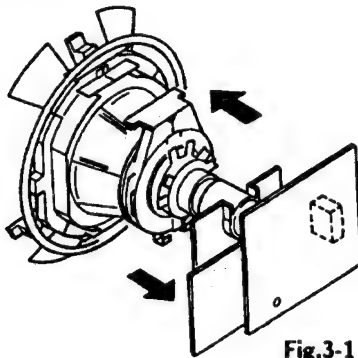

Fig.3-1
(See Figures 3-1 through 3-3.)
5. Move the deflection yoke forward and adjust so that entire screen is red. (See Figure 3-1.)